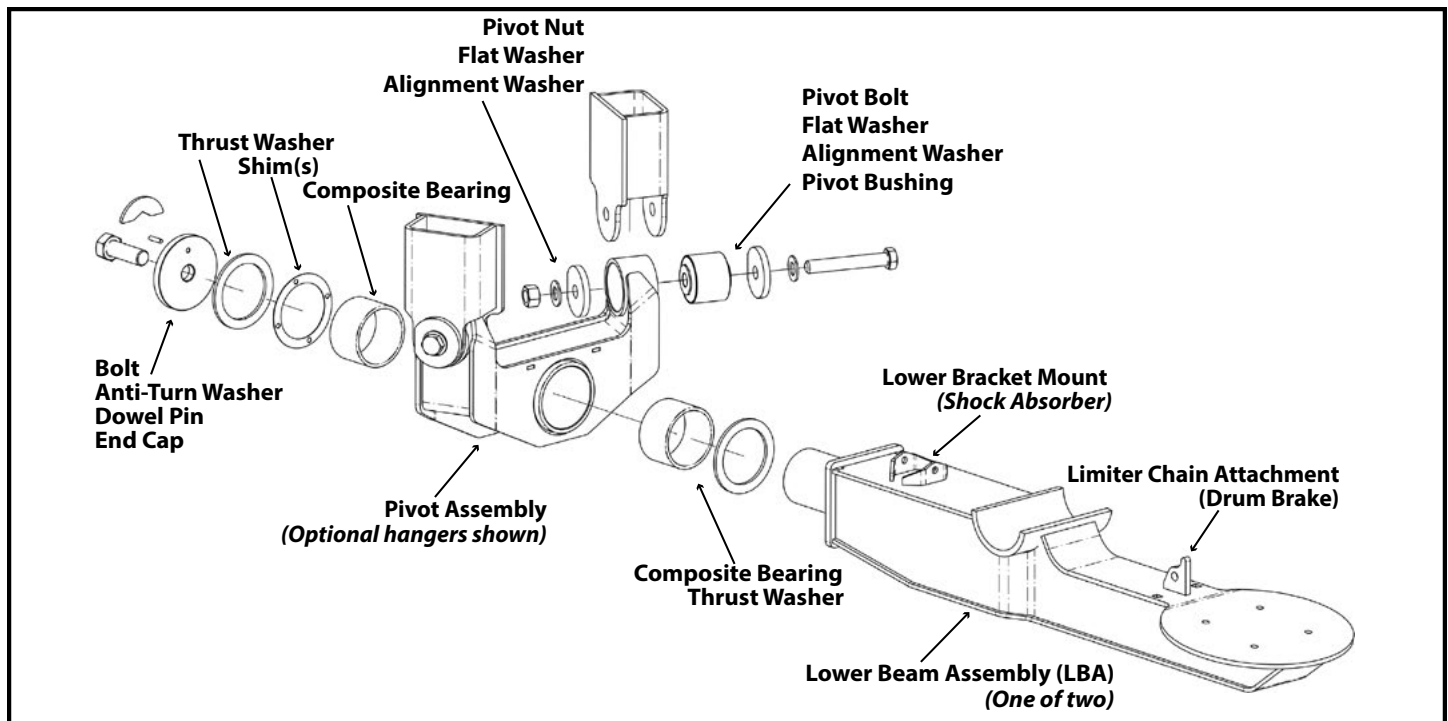

Figure 6.
Replace the two (2) pivot connections on each axle at the same time (Figure 6).
Remove from LBA for further inspection and replacement if necessary (Figure 6).
3. Disassemble the two pivot connections of the pivot assembly. Inspect and replace components as necessary (Figure 6; Page 10).